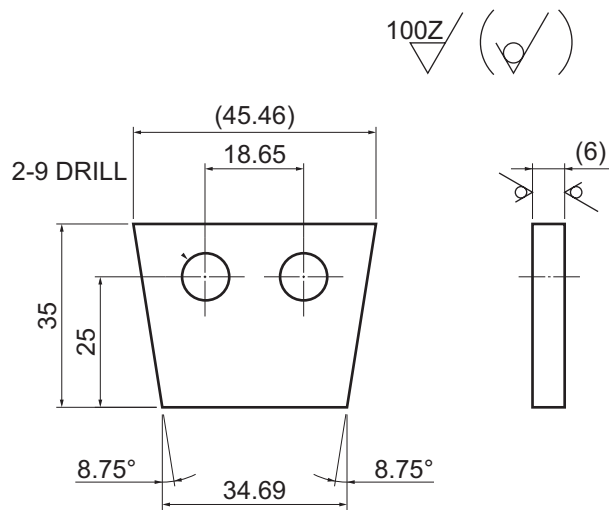

Figure 1-2. Hardstop
- Hardstops, quantity 2 (see **Figure 1-2**)